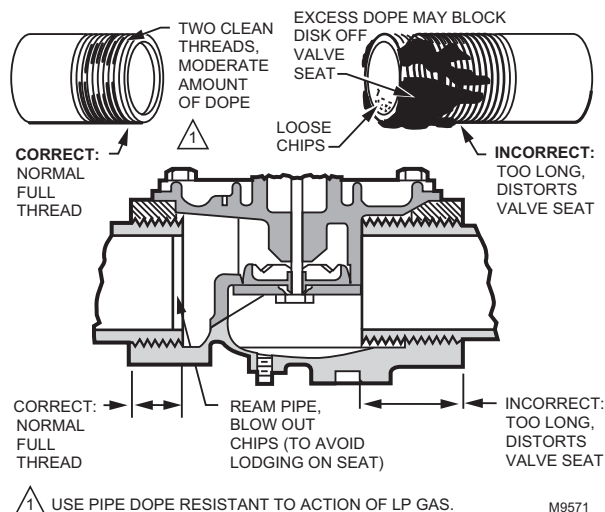
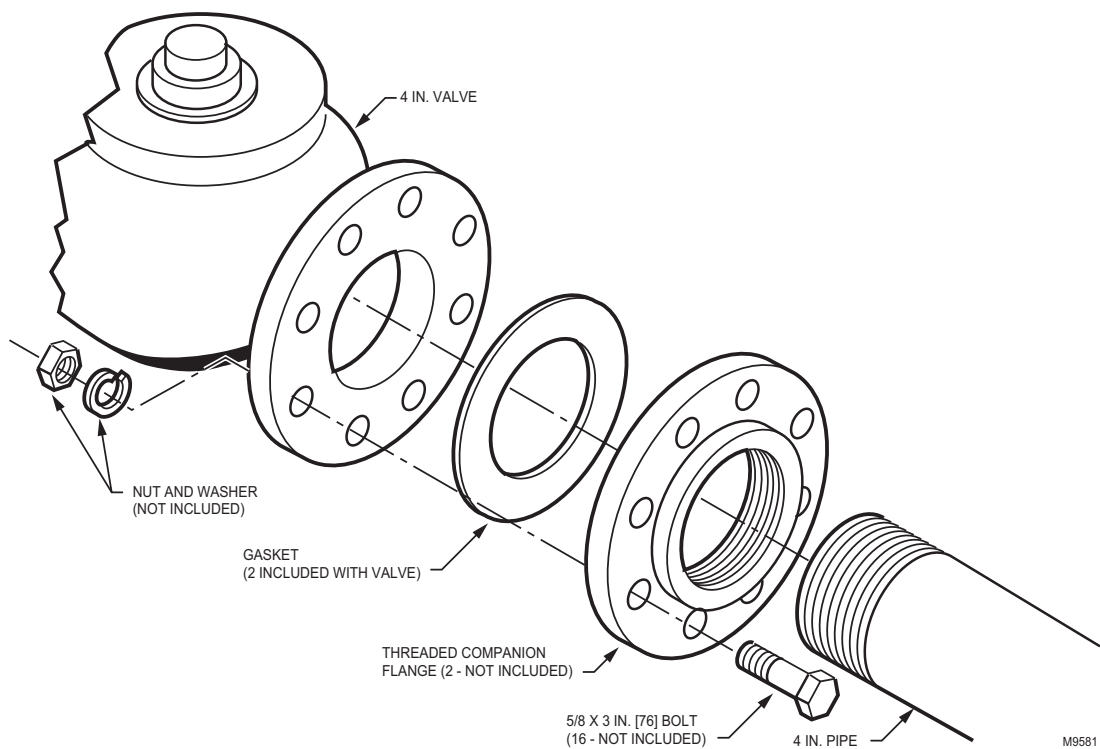

Fig. 4. Preparing the pipes.
Fig. 6. Installing a 4 in. V5055 Valve.
Mounting (Figs. 4 through 6)
2. Do not thread pipe too far (Fig. 4). Valve distortion or malfunction may result from excess pipe in the valve.
8. Use two threaded companion flanges, two gaskets (included with valve), and 16 bolts (with washers and nuts) for mounting a 4 in.-V5055 Valve. Mount a threaded flange and gasket on each end of the valve as shown in Fig. 6. Then screw the pipes into the threaded flanges. Apply dope sparingly, and use wrenches and vises properly as shown in Fig. 4 and 5.